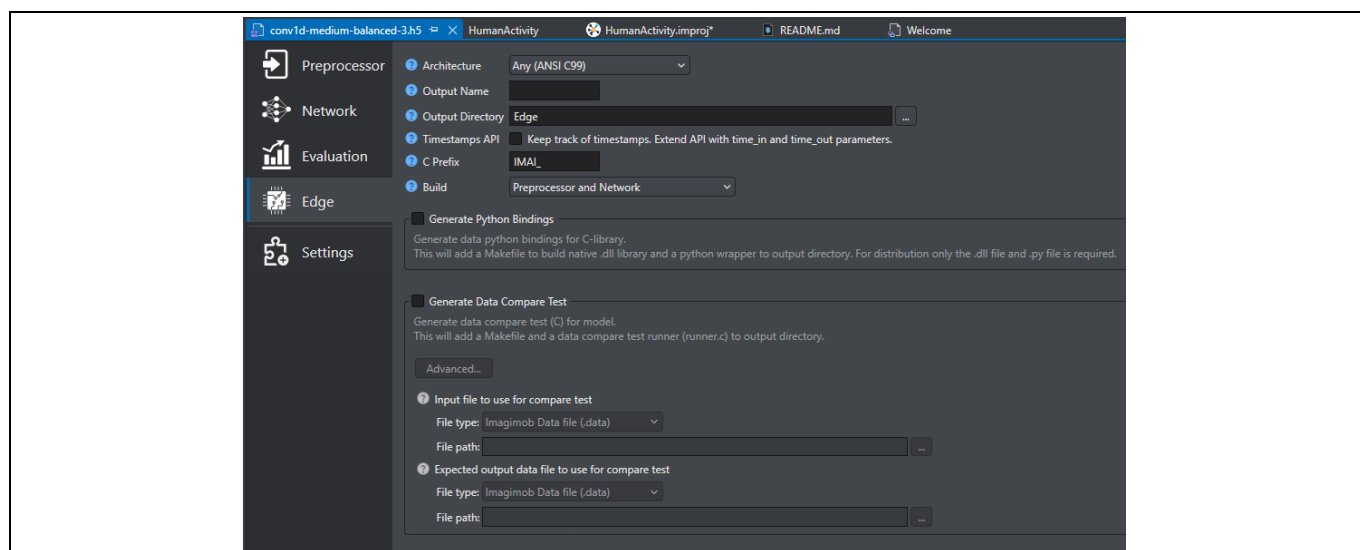

Figure 41 Edge tab
- This will bring up a new page where the **Preprocessor**, **Network**, **Evaluation**, and **Edge** tabs can be accessed. Select the **Edge** tab to bring up the options as shown in Figure 41.